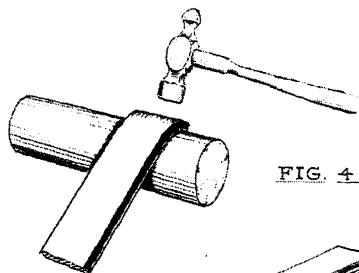
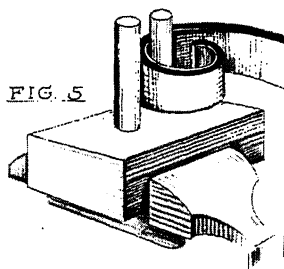

FIG. 4
FIG. 5
3. Shape with bending jigs such as are shown in Figs. 5 and 6. Scrolls should be started as shown in Fig. 4 and may be finished entirely with a hammer and various stakes.